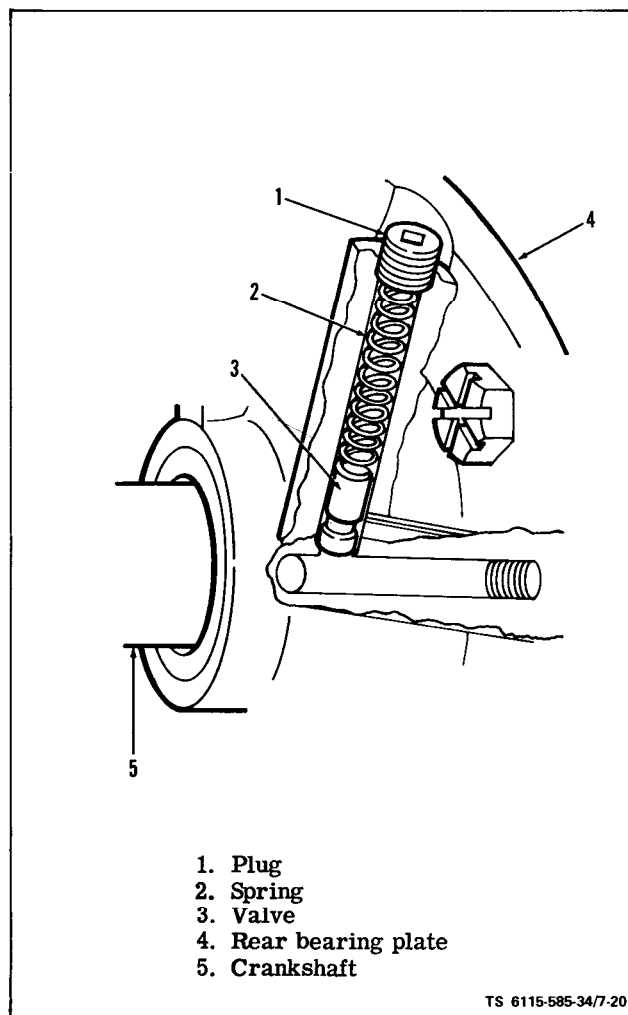

Figure 7-20. Oil By-pass Valve
a. Test on Equipment (see figure 7-20). High oil pressure may be caused by the by-pass valve plunger sticking closed. Low oil pressure may be caused by the by-pass valve plunger sticking open. If these conditions exist, clean and inspect by-pass valve.
- (1) Remove generator, engine flywheel, and adapter.
- (2) Unscrew recessed plug (1, figure 7-20) in rear bearing plate (4).
- (3) Lift out by-pass spring (2, figure 7-20) and valve plunger (3).
- (1) Thoroughly clean spring (2, figure 7-20) and plunger (3). Replace defective or worn parts.
- (1) Assemble spring (2, figure 7-20) and plunger (3) and install in bearing plate (4).
- (2) Install plug (1).